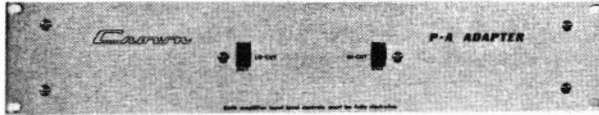

FIGURE 1
2. Ground No. 2 input (chan. 2) by soldering a 3/4" bare wire (as shown in Figure 1) between points A and B.